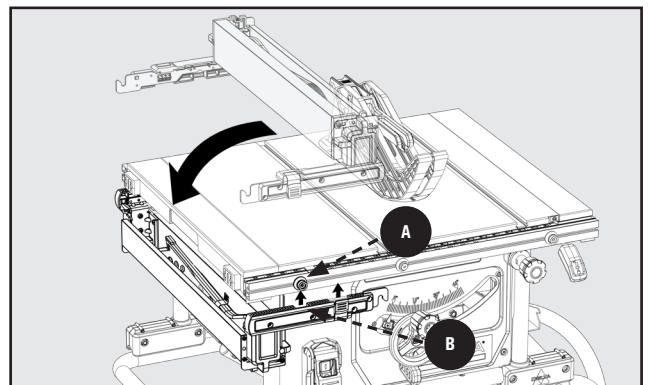

Figure 29
1. Remove the Fence from the machine. The Storage orientation will require the Fence to be flipped upside down and re-attached under the Left Side of the machine. The Mounting Tabs A on the Table should fit into the slotted openings B on the bottom of the Fence Arms. Please see Figures 29 and 30 for proper orientation.